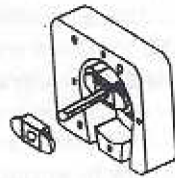
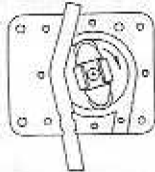

FIG. 1
FIG. 2
6. Using extra bracket (figure 1), rotate roller bracket assembly until it is in position as in figure 2. (Be sure power is disconnected)